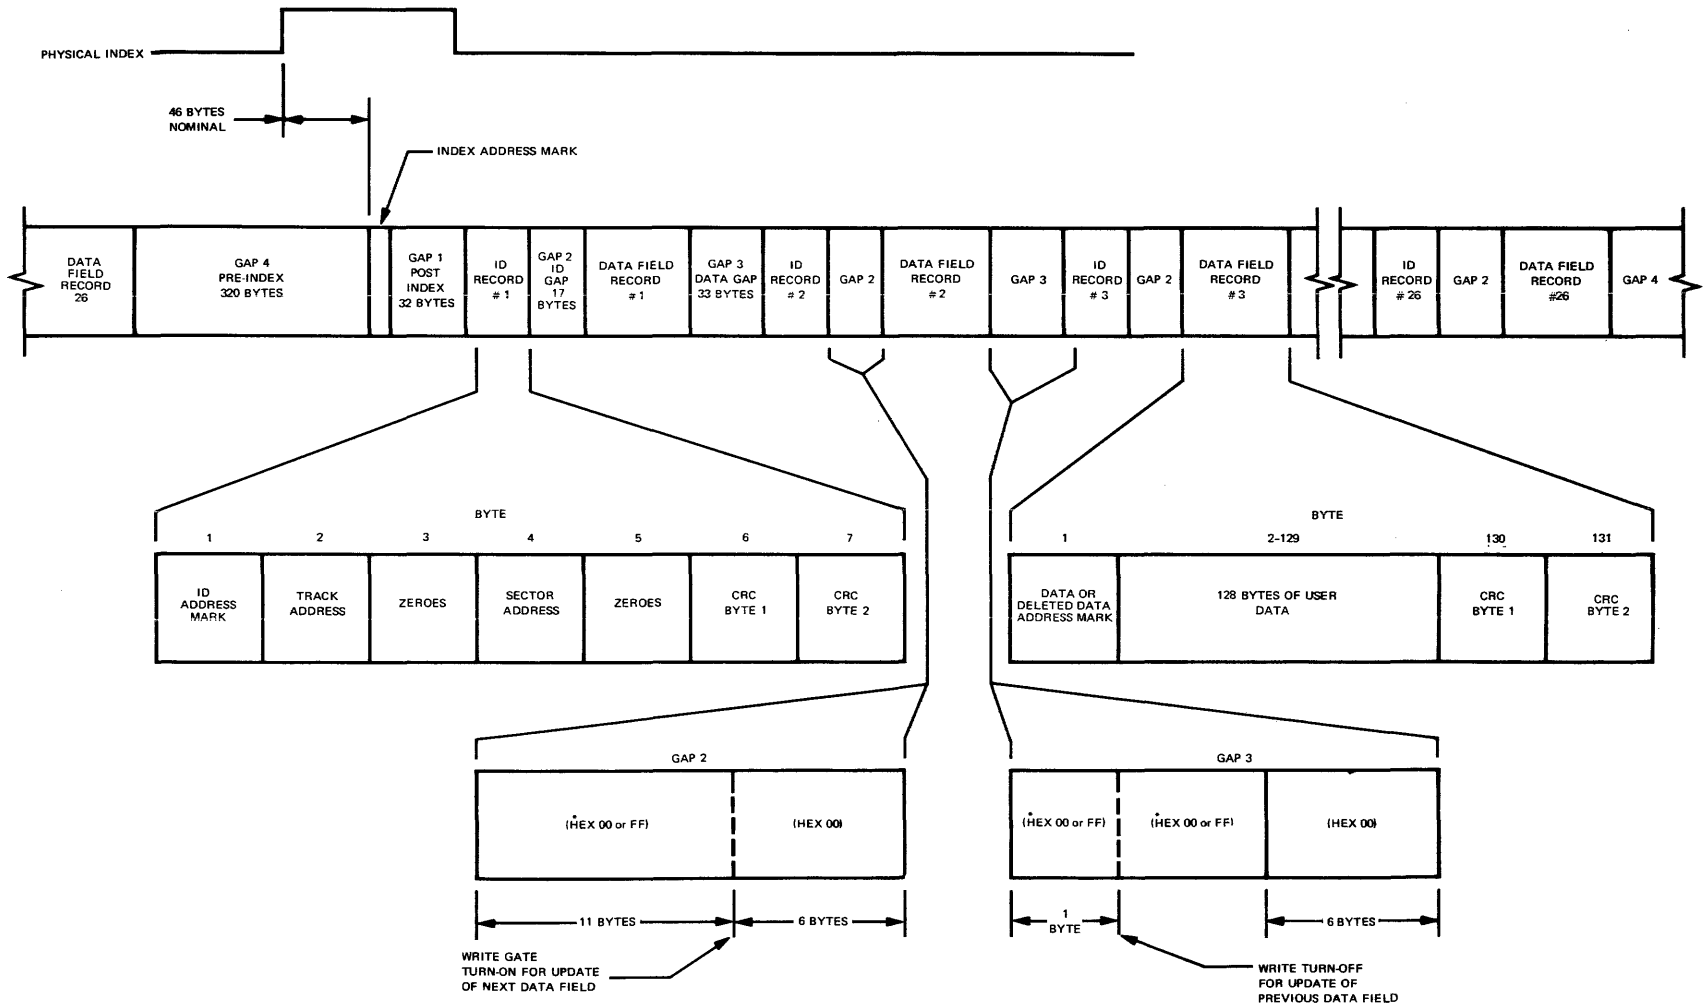

Figure 8 Track Format
In this Format, the using system may record one long record or several smaller records. Each track is started by a physical index pulse and then each record is preceded by a unique recorded identifier. This type of recording is called soft sectoring. Figure 8 shows a soft sector format. (IBM compatible)
Figure 8 shows a track Format, which is IBM compatible, using Index Recording Format with soft sectoring.
2.7.1 Gaps (Ref. Fig. 8)
Each field on a track is separated from adjacent fields by a number of bytes containing no data bits. These areas are referred to as gaps and are provided to allow the updating of one field without affecting adjacent fields. As can be seen from Figure 8, there are four different types of gaps on each track.